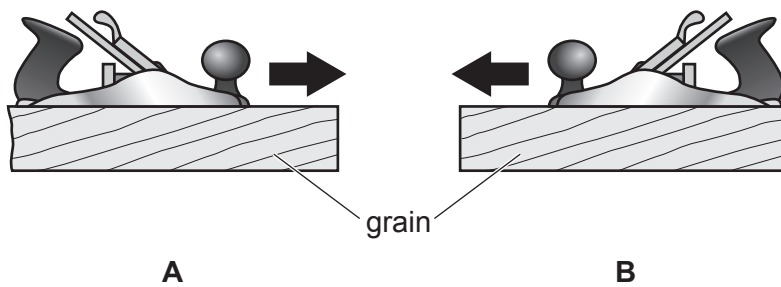

**Fig. 1.1**
- 1 Fig. 1.1 shows a student using a pillar drill.